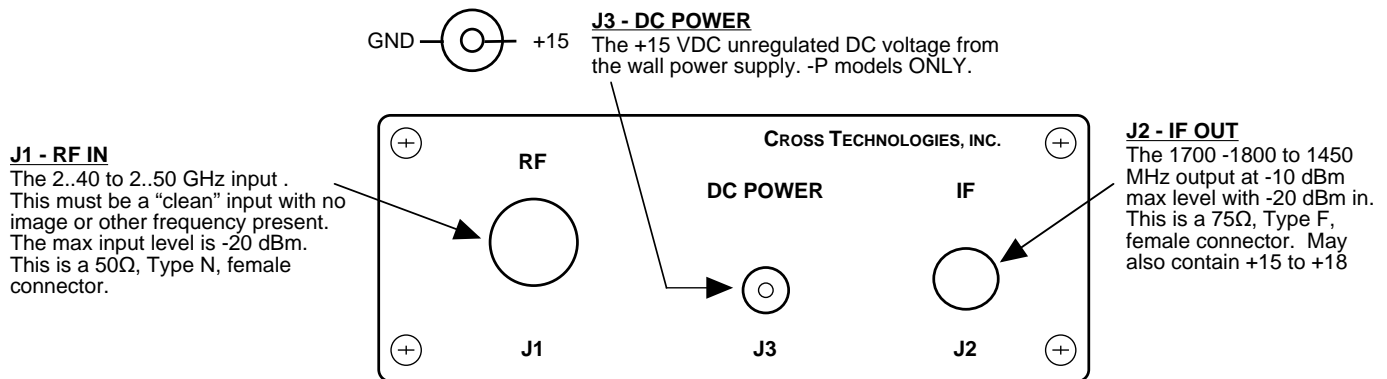

FIGURE 2.3 Model 2009-2425-1750 Rear Panel Inputs and Outputs
Figure 2.3 shows the input and output signals to the 2009-2425-1750.
1. For **-P4** models, connect one end of the Wall Power Supply to the 2009-2425-1750 DC Power In, J3, and the other end to 115 VAC, 60 Hz (Figure 2.3).
2. Connect a -20 dBm, maximum, signal to RF IN, J1 (Figure 2.3).
3. Connect the IF OUT, J2, to the receiver under test (For models powered from the LNB be sure that the LNB voltage is +15 to +18 VDC, 250 ma) (Figure 2.3).